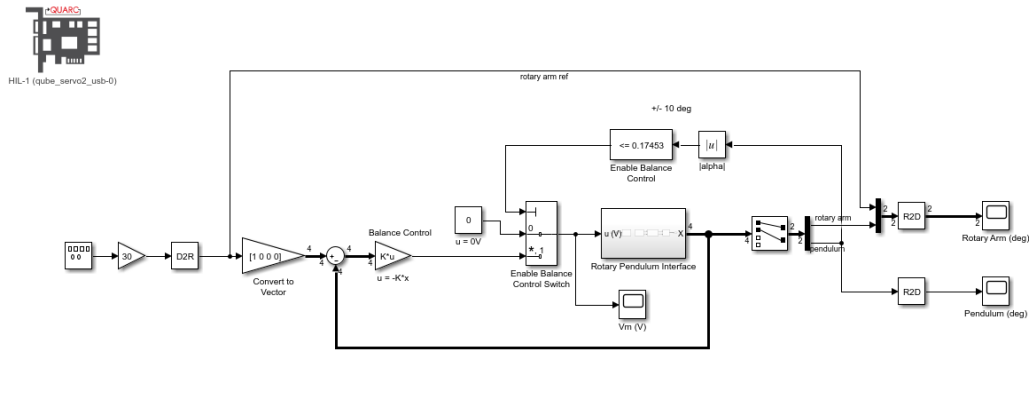

Figure 2.1: **SIMULINK**[®] model used with **QUARC**[®] run optimized balance controller
Construct a **QUARC**[®] controller similarly to Figure 2.1 that balances the pendulum on the QUBE-Servo 2 rotary pendulum system using a generated control gain K .
- Using the **SIMULINK**® model you made in the Rotary Pendulum Modeling laboratory experiment, construct the controller shown in Figure 2.1: